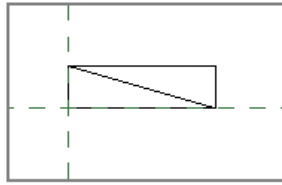

FIGURE 11.8 Creating a blocking detail component
2. On the **Create** tab, click the **Line** tool, and draw a line diagonally across the box to denote blocking. The family should look like Figure 11.8.